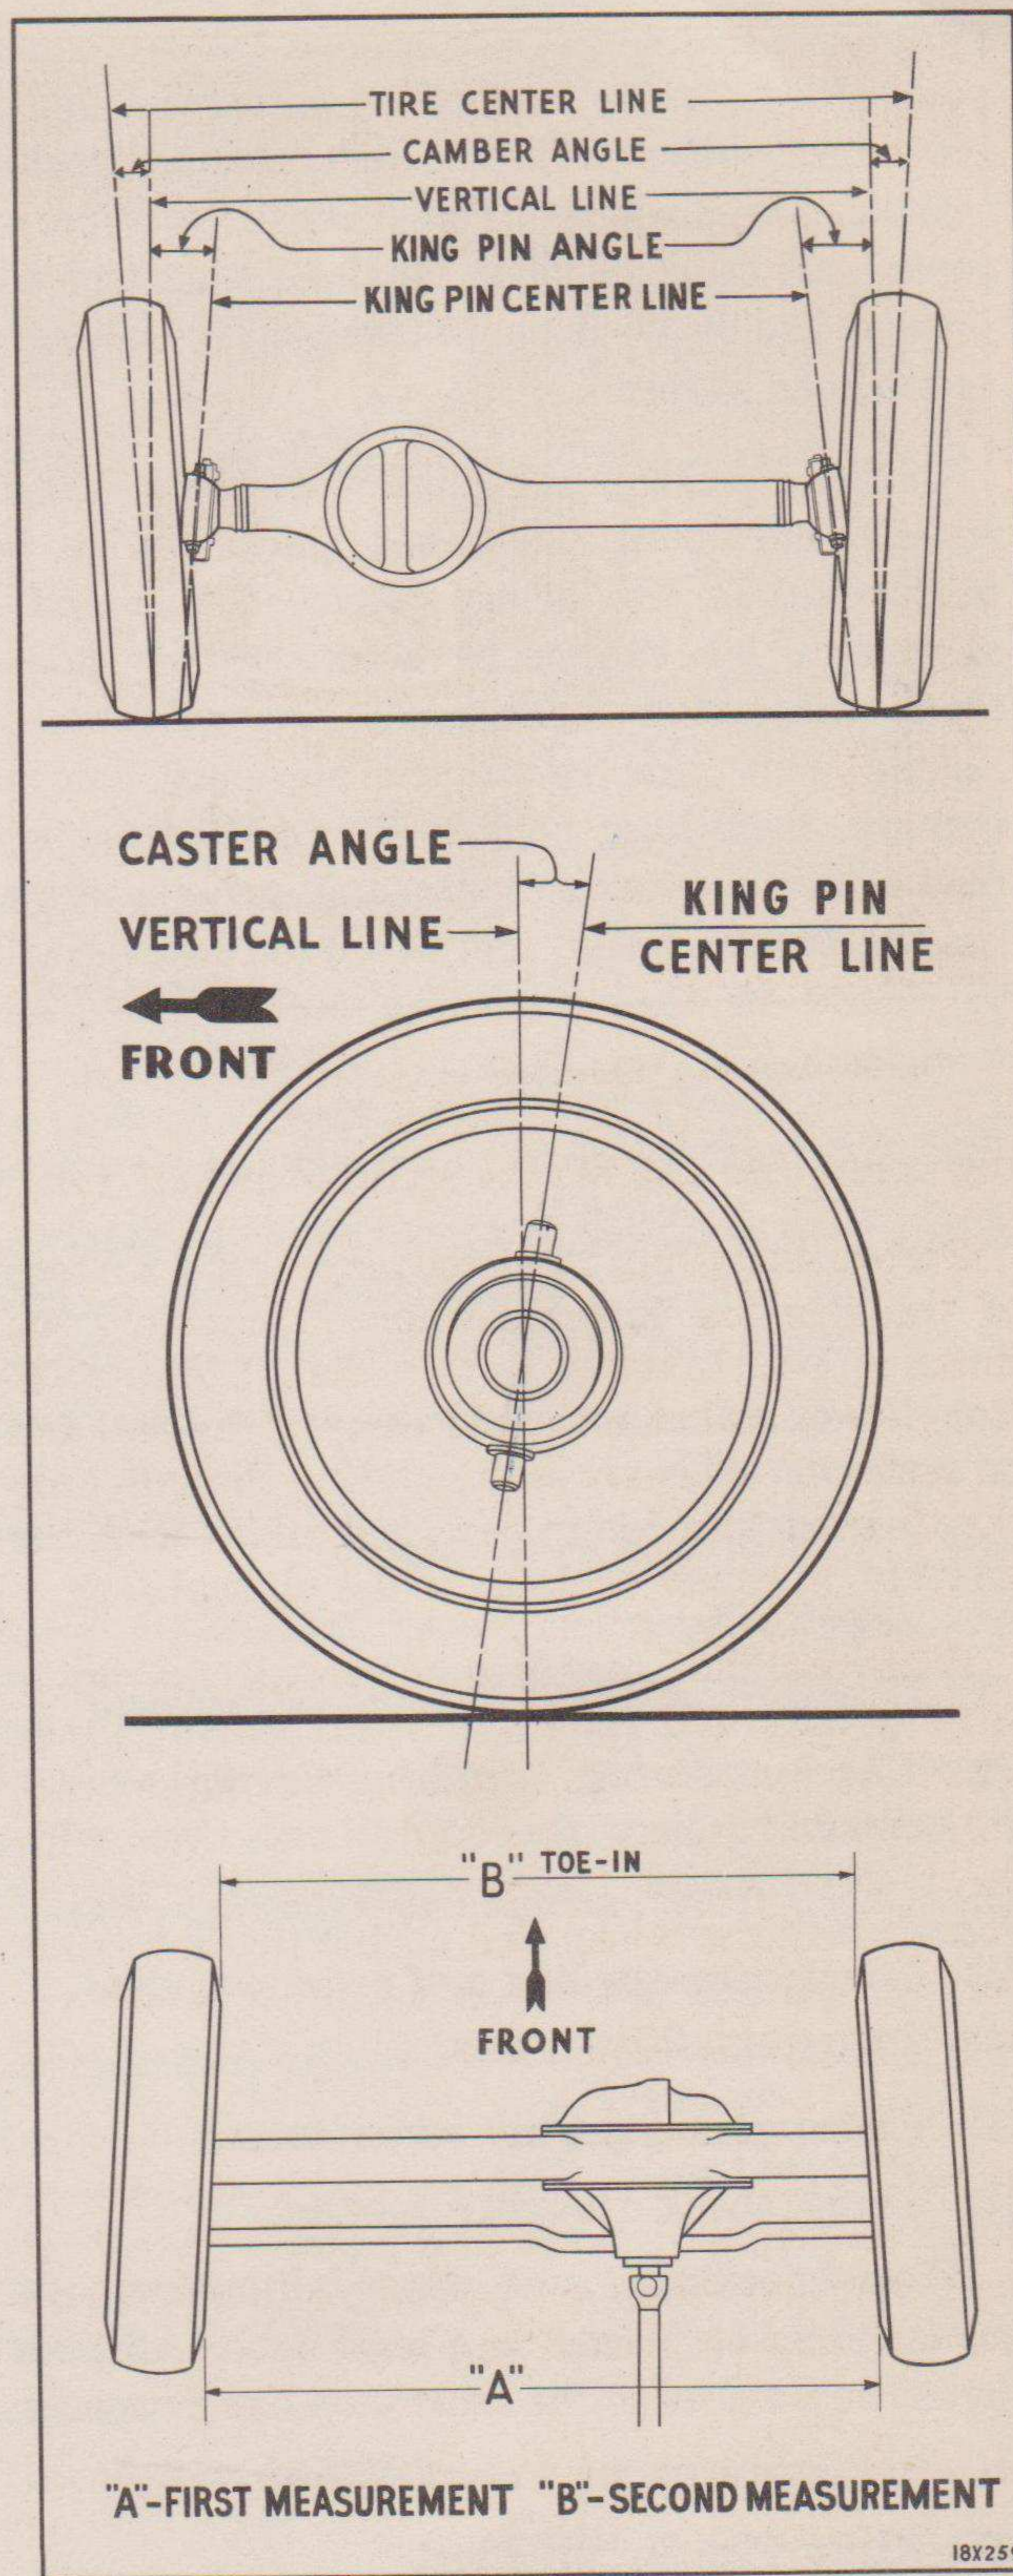

Fig. 39—Front Wheel Alignment Angles
In making corrections to front wheel alignment, or when installing new front axle parts, the angles in both front wheels (See Fig. 39) should be checked as follows:
King pin inclination is the amount the steering knuckle pivot pins incline away from the vertical, toward the center of the truck as viewed from the front of the truck (Fig. 39). Inclined pivot pins are closer together at the top than at the bottom.
Camber is the amount the wheel inclines away from the vertical at the top as viewed from the front of the truck. See Fig. 39.
Positive caster (Fig. 39) is the tilting of the pivot pins toward the rear of the truck, while negative or reverse caster is the tilting of the pins toward the front of the truck.
**Toe-in is the amount the front wheels are closer together at the front than they are at the back as viewed from the top of the truck. See Fig. 39.**
- (c) Actual toe-in measurements should be taken by measuring the distance "A" (Fig. 39) at hub height, between two points on the center of the tread at the *rear* of the tires. Mark this point on the tires, roll the truck ahead so that the markings are in *front* at hub height, and then measure the distance "B" between the same two points on the tire treads. The difference in the two measurements is the actual toe-in or toe-out. If the toe-in is not correct, it should be adjusted as follows: